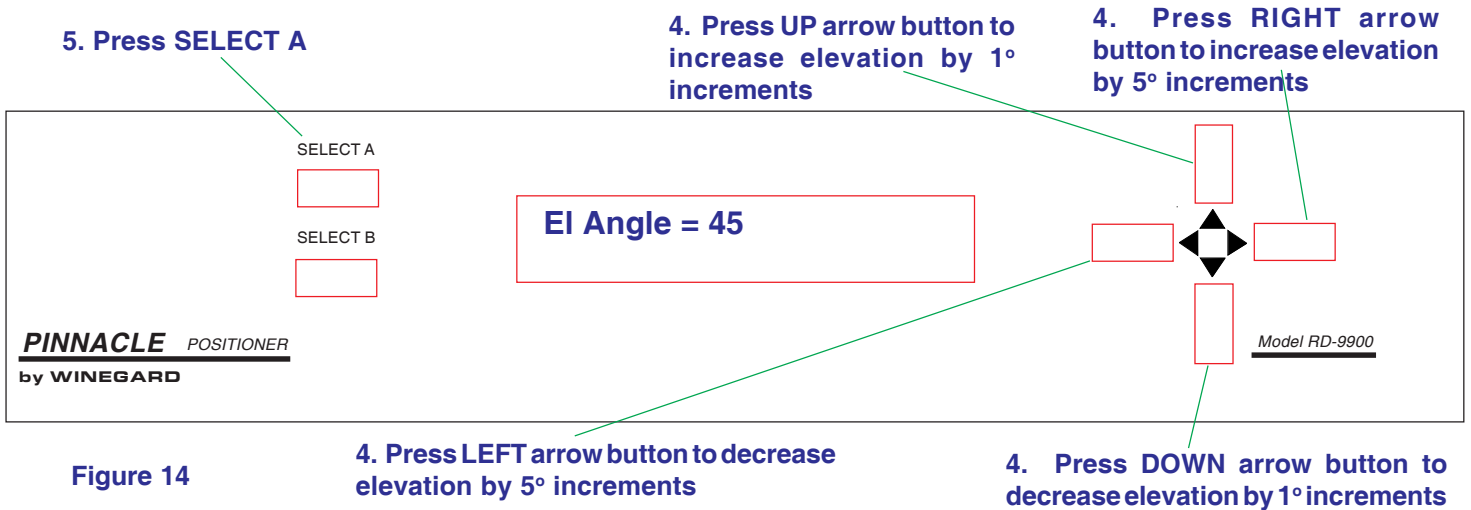

Figure 14
5. Press [ARROW BUTTONS] to enter correct elevation, Figure 14.